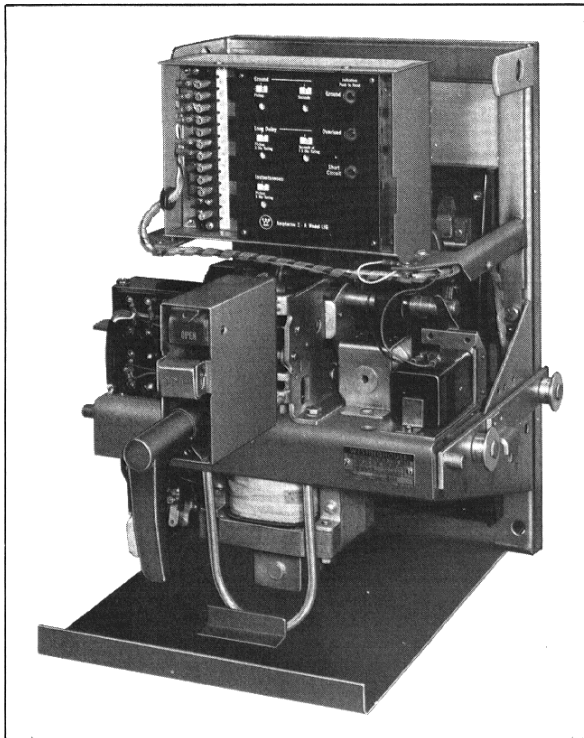

Fig. 13 Actuator Mounted and Wired on a DB-25 ACB
4. Connect the black wires to the Actuator using the .138-32 nut lock and flat washer, see Fig. 13, being careful to observe polarity marks on one wire.